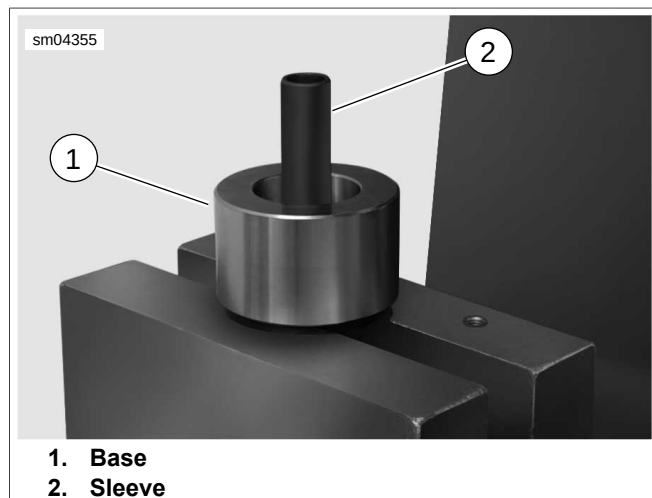
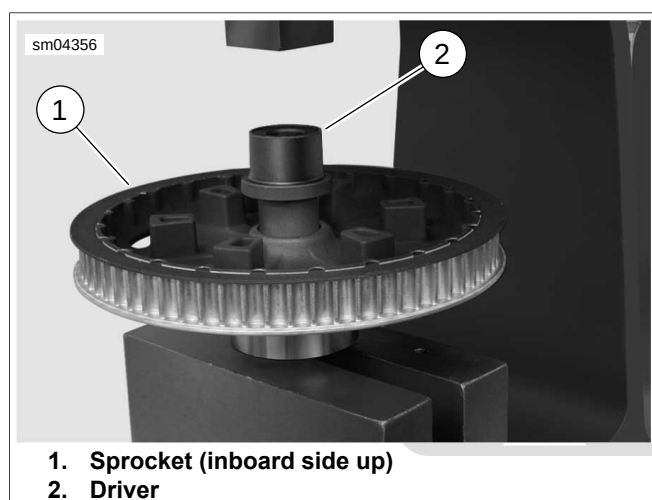

Figure C-3. Position Tool for Bearing Removal
Figure C-4. Remove Compensator Sprocket Bearing
3. See Figure C-3. Place parallel press blocks on deck of arbor press. Leave gap between press blocks to accommodate base pin in next step.
4. Position base (1) on press blocks with the large OD top-side.
5. Slide sleeve (2) over base pin.
6. See Figure C-4. With the inboard side facing up, slide sprocket (1) over sleeve until it rests on base.
7. Slide small OD of driver (2) over sleeve until contact is made with inner race of bearing.